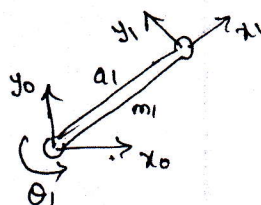

Fig Q5(a) Signal link manipulator
- 5 a. Compute the effective inertia, coupling inertia centripetal and coriolis component and the gravity terms for a single link manipulator of mass 'm' and length 'a1' as shown in Fig Q5(a).